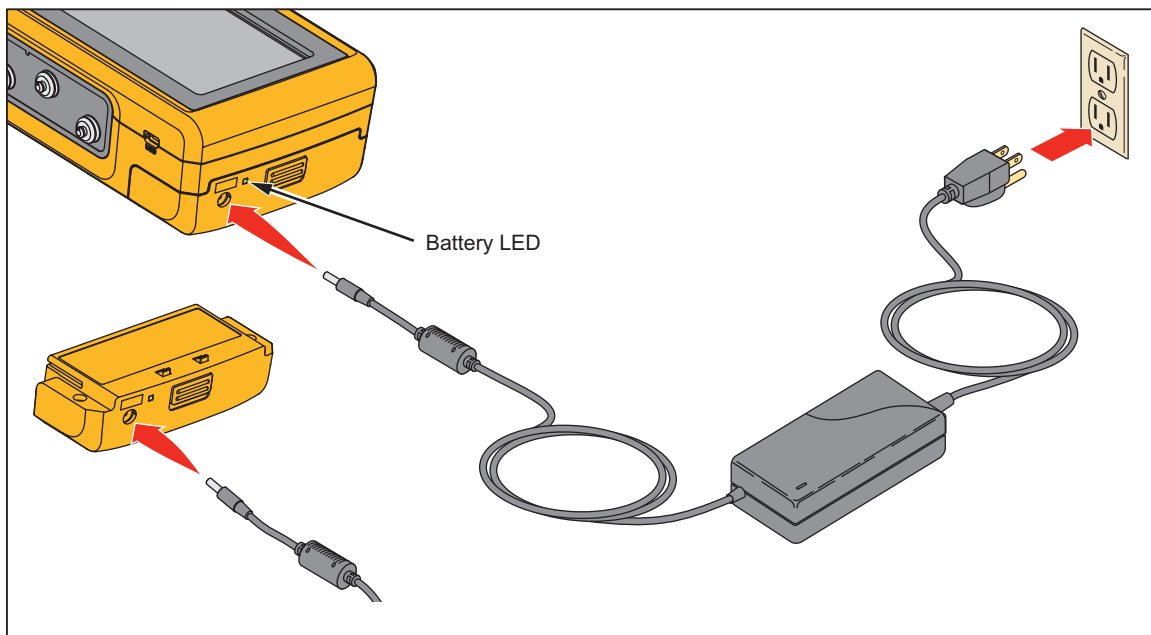

Figure 25. External Battery Charging Connections
1. As shown in Figure 25, connect the ac/dc power supply to the power connector on the battery pack.